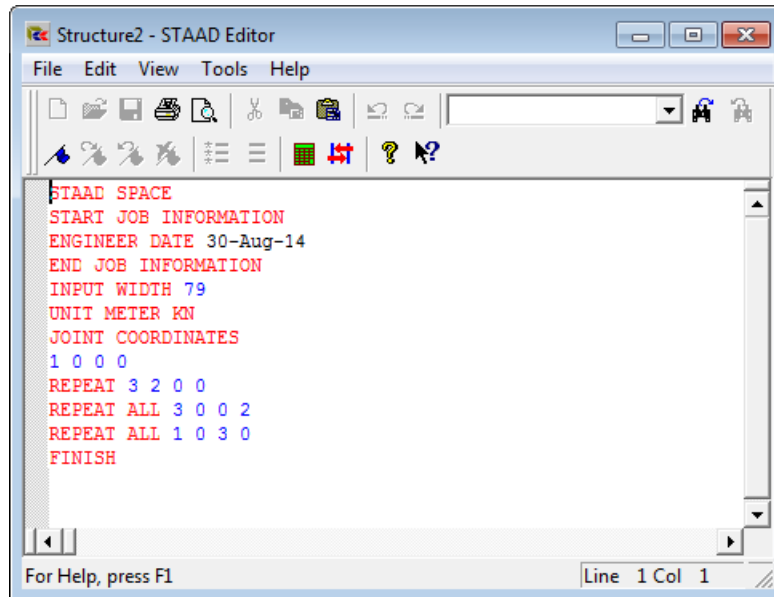

Figure 2-5 Commands in the STAAD Editor window
Step 2: In the **STAAD Editor** window, specify the commands, as shown in Figure 2-5.